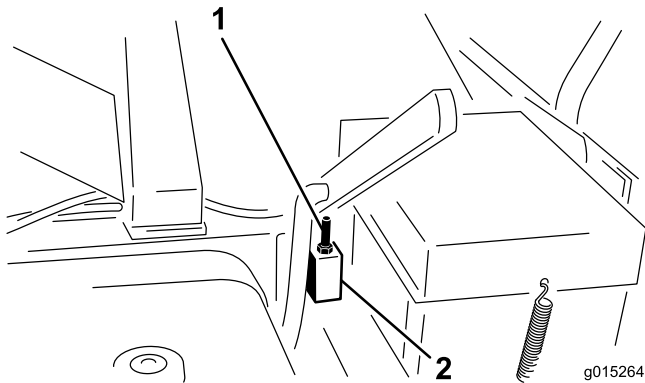

Figure 13
- Loosen the jam nut on top of the stop and rotate the adjustment bolt up or down until the flap is vertical to the ground (Figure 13).